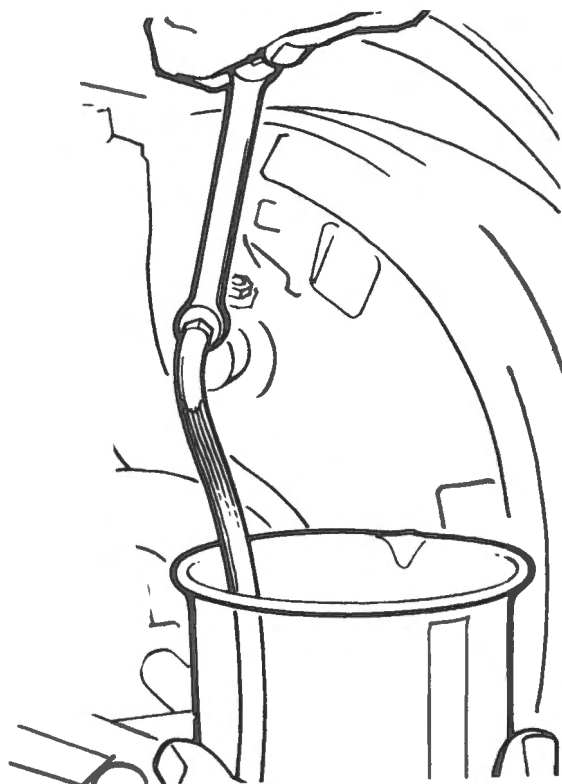

Fig. R-1
- 1 Clean the bleeder valve and attach the bleeder tube and immerse the free end of the tube in a clean jar containing brake fluid. Fig. R-1.